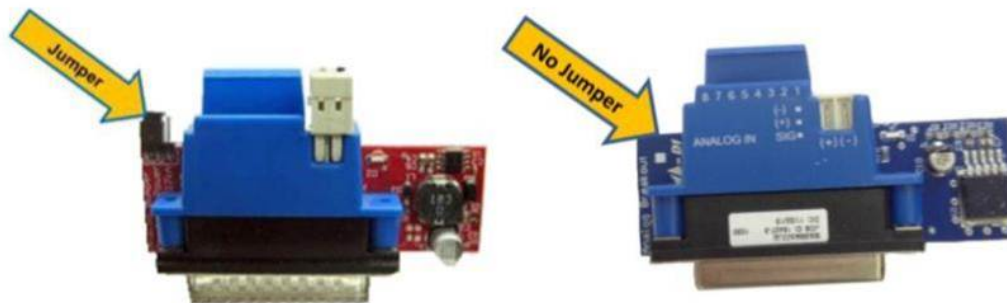

Figure 4-14: Former (left) and Current (right) KOP Analog Breakout Boards
- C. If using Analog Breakout Boards revision 6 and older, a jumper must be installed in the “Power” position (two outer pins) (see Figure 4-14).